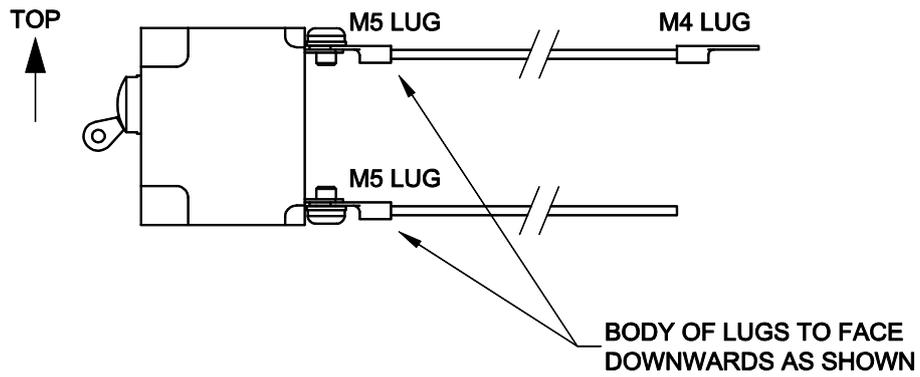

Figure 2 – Pre-wired Circuit Breaker assembly
5. The new Circuit Breaker in the kit is supplied pre-wired as shown in Figure 2 below. Please check before fitting.